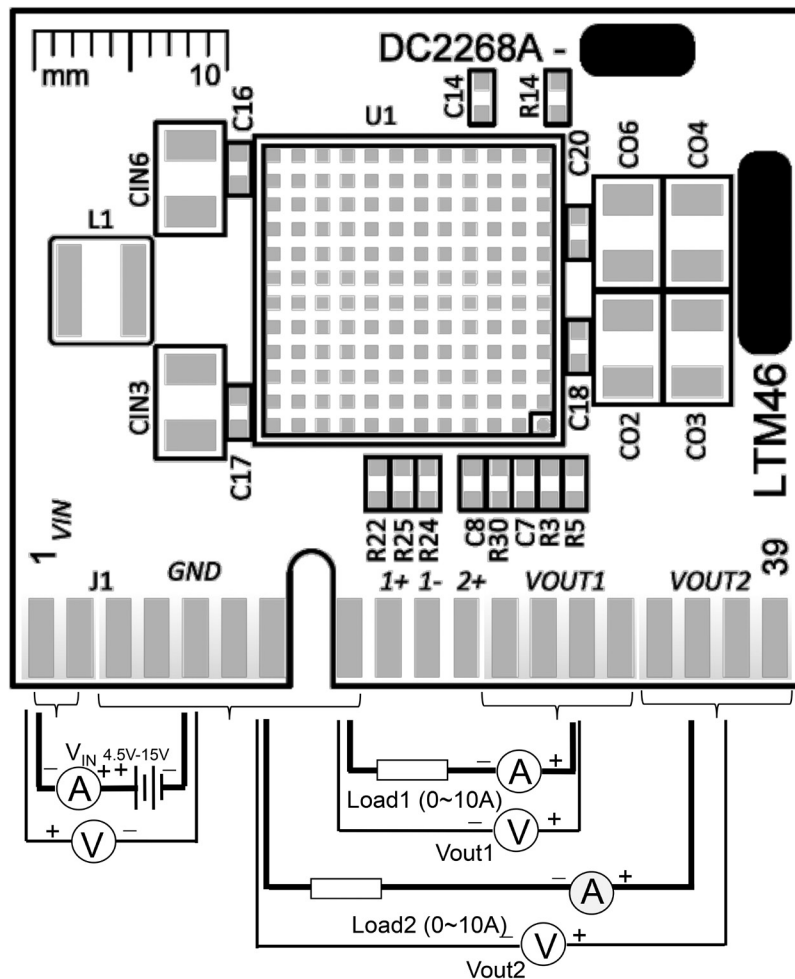

Figure 2. Test Setup of DC2268A-G
Demonstration circuit DC2268A-G is easy to set up to evaluate the performance of the LTM4631. It can be easily inserted to an edge connector (SAMTEC MEC2-20-01-L-DV-TR) for testing and debugging. Please refer to Figure 2 for proper measurement setup and follow the procedure below:
2. With power off, connect the input power supply, load and meters as shown in Figure 2. Preset the load to 0A and  $V_{IN}$  supply to 12V.